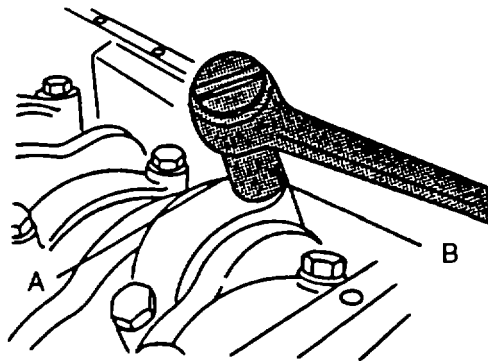

FIGURE 3-171. Tightening Connecting Rod Caps
- h. Dip new connecting rod capscrews (1) air clean engine lubricating oil (MIL-L-2104) and install. Tighten capscrews alternately to 41 ft-lbs (56 Nm).
- (1) After tightening capscrews (1) to the values given above, mark connecting rod cap (A, FIGURE 3-171) and socket.
- (2) Make a second mark on socket 90 degrees counterclockwise from first mark.
- (3) Tighten 1/4 turn (90 to 100 degrees) clockwise until mark (B) is in line with mark (A) on cap.